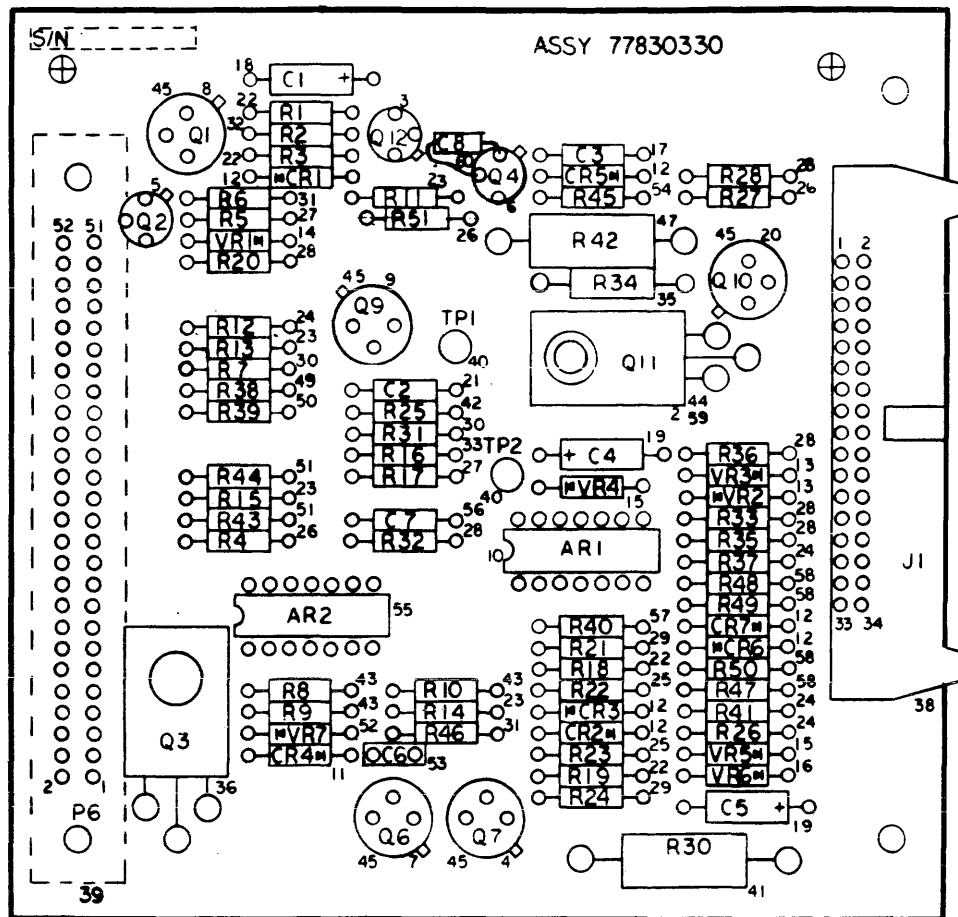

Figure 3-15. Power Supply Board No. 2
1. Install new board assembly (figure 3-15).